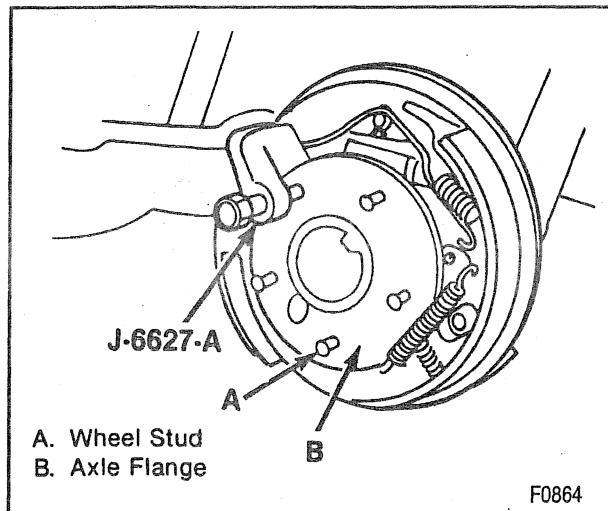

Figure 14—Pressing Out a Wheel Stud
2. Stud from the axle flange using J 6627-A (figure 14).